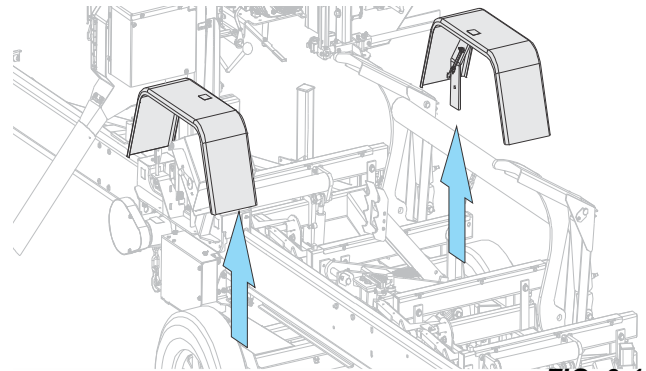

FIG. 3-1
2. Release the fenders and lift up to remove the fenders. **See Fig. 3-1.**